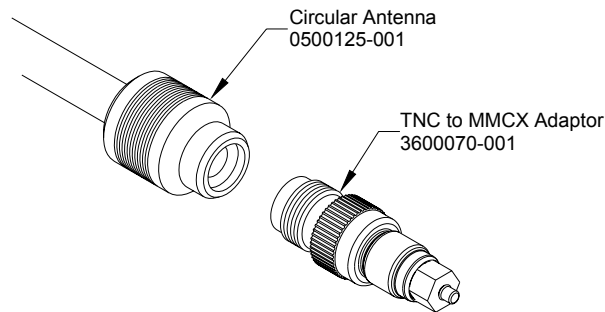

Figure 1.
STEP 1: Install the adaptor to the antenna cable as shown in figure 1.